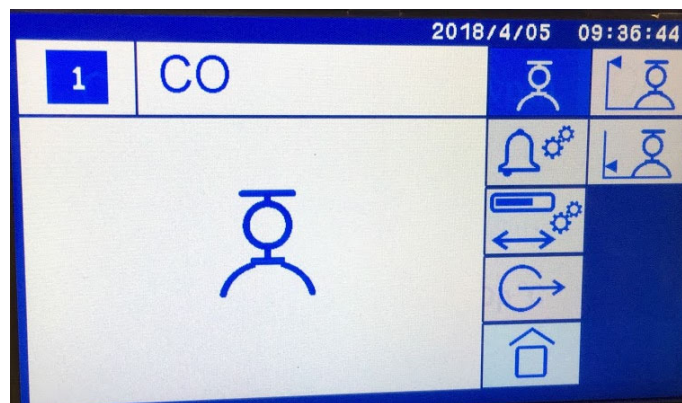

Figure 12-1: Calibration screen (manual calibration activated)
- b. Touch the high span measurement  icon shown on the screen (see Figure 12-1).
5. When the calibration procedure is finished touch the Back  icon to terminate “Service In Progress” and bring up the measurement screen (Figure 12-1).
- b. Touch the Low Span or Zero measurement  icon shown on the screen in Figure 12-1.